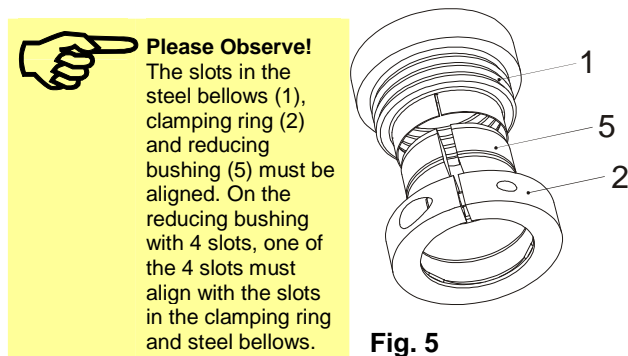

Fig. 5
- ❑ Avoid damage to the steel bellows (1) before and during installation.
- ❑ The clamping ring (2) with the holding spring (3) must be engaged in the reducing bushing (5) or the reducing bushing with tapered bore (6).
- ❑ In order to transfer the defined torques in Table 2 on page 2 correctly, the slots in the steel bellows (1), clamping ring (2) and reducing bushing (5) must be aligned (see Fig. 5).
Coupling Installation Types 932.333 and 932.433 (Fig. 5)
2. Push the entire coupling over the whole length of the reducing bushing (5) onto a shaft.
3. Make sure that the steel bellows (1) is pushed between the clamping ring (2) and the reducing bushing (5) up to its limit, and that the slots in the steel bellows (1), clamping ring (2) and reducing bushing (5) are aligned (see Fig. 5).
4. Tighten the cap screw (4). The screw tightening torques (see Table 1) must be observed.
5. Push the second shaft over the entire length of the reducing bushing (5) into the coupling.
6. Make sure that the steel bellows (1) is pushed between the clamping ring (2) and the reducing bushing (5) up to its limit, and that the slots in the steel bellows (1), clamping ring (2) and reducing bushing (5) are aligned (see Fig. 5).
7. Tighten the cap screw (4). The screw tightening torque (see Table 1) must be observed.
1. Remove the clamping ring (2) with the protruding reducing bushing with tapered bore (6) from the coupling.
3. Push the reducing bushing with tapered bore (6) onto the conical shaft.
5. Push the rest of the coupling with the open steel bellows side up to its limit between the clamping ring (2) and the reducing bushing with tapered bore (6).
6. Tighten the cap screw (4). The screw tightening torque (see Table 1) must be observed.
7. Push the second shaft over the entire length of the reducing bushing (5) in the coupling.
8. Make sure that the steel bellows (1) is pushed between the clamping ring (2) and the reducing bushing (5) up to its limit, and that the slots in the steel bellows (1), clamping ring (2) and reducing bushing (5) are aligned (see Fig. 5).
9. Tighten the cap screws (4). The screw tightening torques (see Table 1) must be observed.